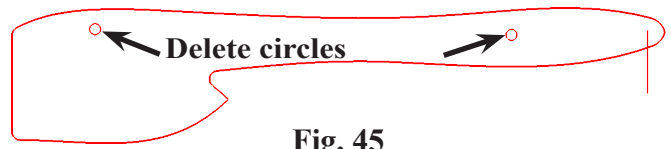

Fig. 45
Step 1. Delete the two circles. To delete, Shift click both circles to chain both circles and press the Delete key, Fig. 45.